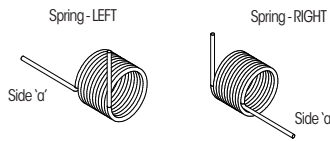
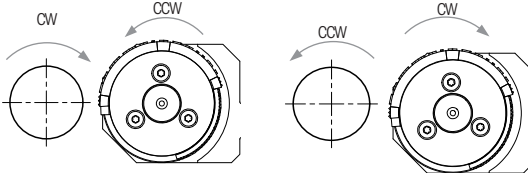
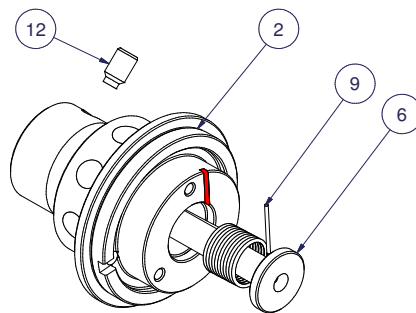

Figure 4: Spring
Figure 3: Direction of rotation of workpiece and marking roll
Figure 5: Installation of the spring
The direction of rotation of the tool and/or axis (clockwise = CW or counter-clockwise = CCW) is crucial for selection of the correct spring (Fig. 3). With CW rotation of the workpiece, the right-hand version (Fig. 4, RIGHT) of the spring must be installed and the left-hand version (Fig. 4, LEFT) must be installed for CCW rotation. Slide the spring (Fig. 5, pos. 9) with mounting side 'a' into the bore of the stop receptacle (Fig. 5, pos. 2). Ensure that the shorter end is positioned in the groove (Fig. 5, marked red). Then, slide the collar bolt (Fig. 5, pos. 6) into the bore and fasten with the threaded pin (Fig. 5, pos. 12). The carrier unit must have only enough play that friction-free rotation is possible.
After the tool has been set up, the workpiece can be approached and adjusted with a rotating spindle. With rotation of the workpiece, the marking roll is driven in the opposite direction (cf. Fig. 3). Characters of the marking roll are embossed in the process. Is the marking completed, the marking roll stops in the end position. Then, if the tool is removed from the engagement, the carrier unit springs to its initial position.